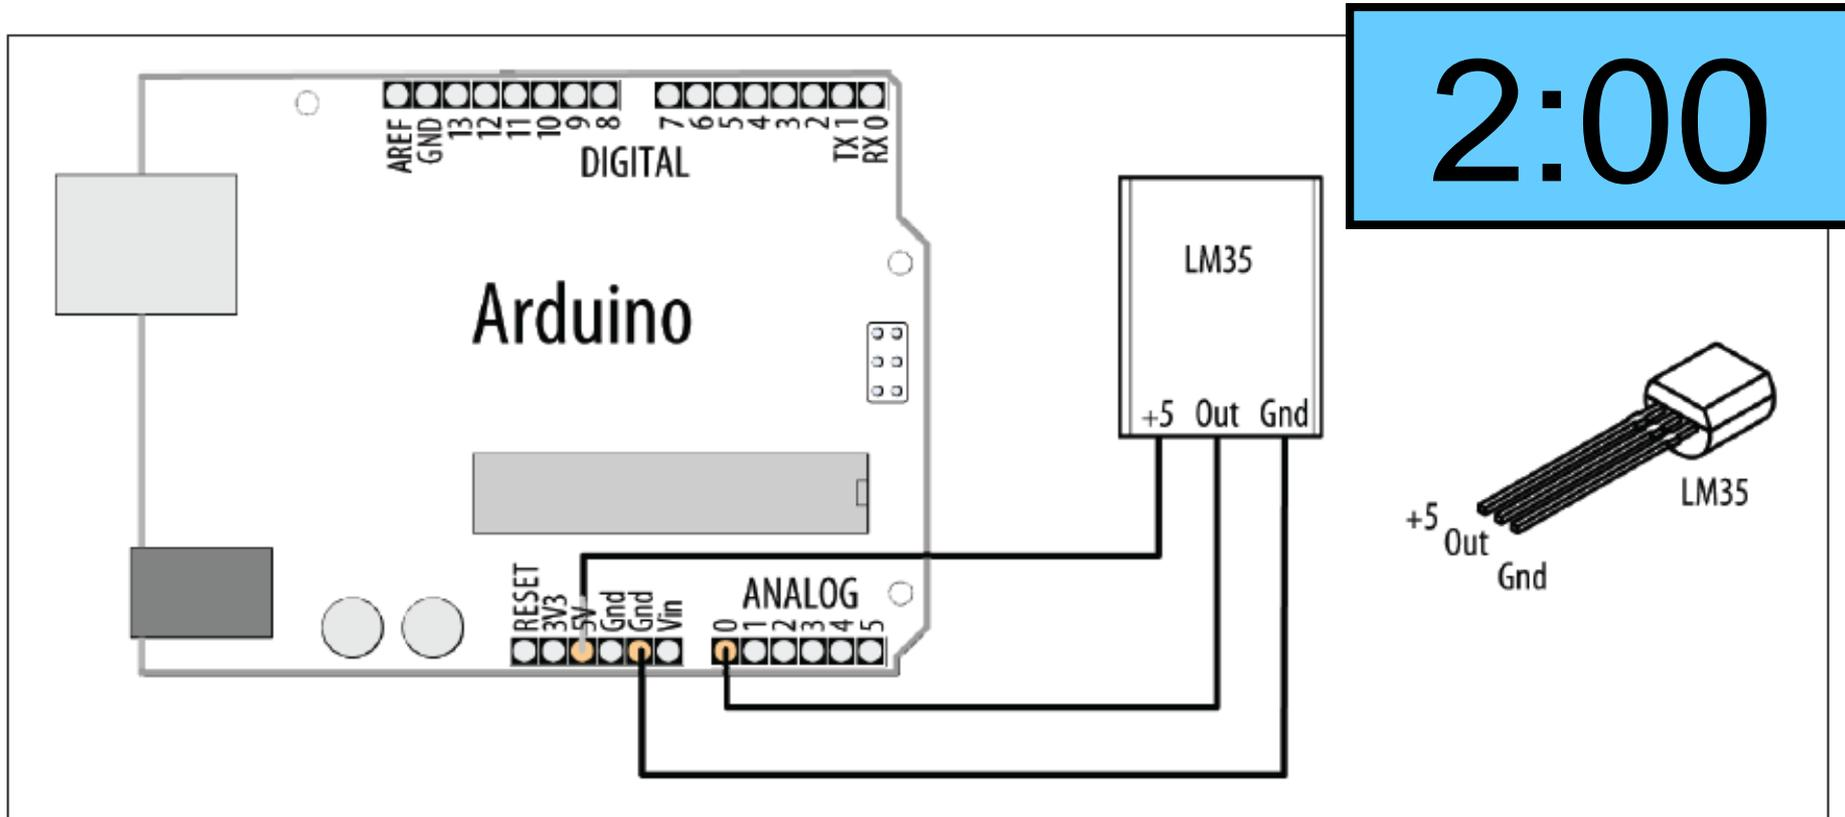

Figure 6-11. Connecting the LM35 temperature sensor
- **This recipe displays the temperature in Fahrenheit and Celsius (Centigrade) using the popular LM35 heat detection sensor. The sensor looks similar to a transistor and is connected as shown in Figure 6-11:**